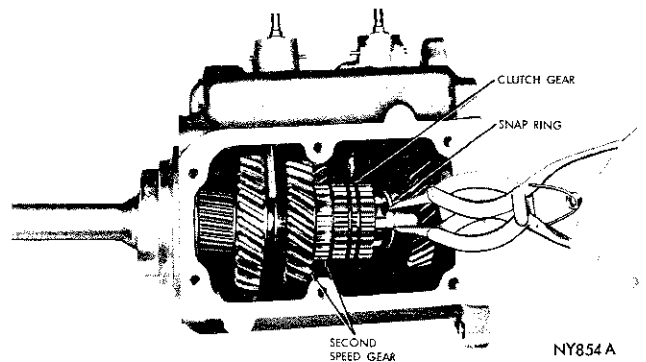

Fig. 21—Removing or Installing Snap Ring
(3) Remove the clutch gear retaining snap ring, using snap ring pliers (Fig. 21). Slide the clutch gear off the end of the mainshaft.